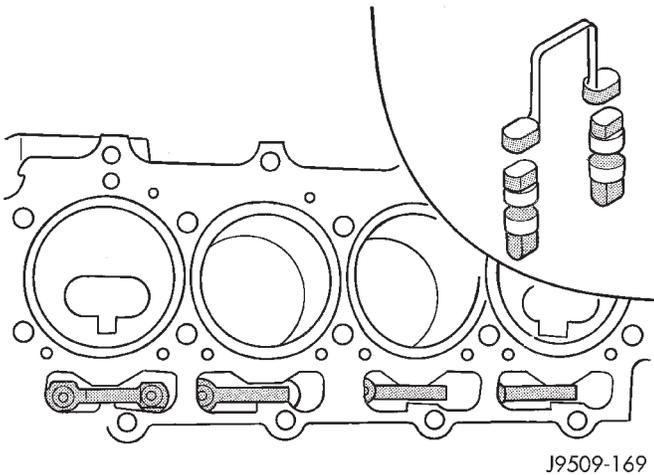

Fig. 36 Tappet and Yoke
- (4) Remove cylinder head, intake manifold, and exhaust manifold. Refer to cylinder head removal in this section.
- (5) Remove yoke retainer and aligning yokes (Fig. 36).
- (6) Slide Hydraulic Tappet Remover/Installer Tool through opening in block and seat tool firmly in the head of tappet.
- (7) Pull tappet out of bore with a twisting motion. If all tappets are to be removed, identify tappets to ensure installation in original location.
- (8) If the tappet or bore in cylinder block is scored, scuffed, or shows signs of sticking, ream the bore to next oversize. Replace with oversize tappet.